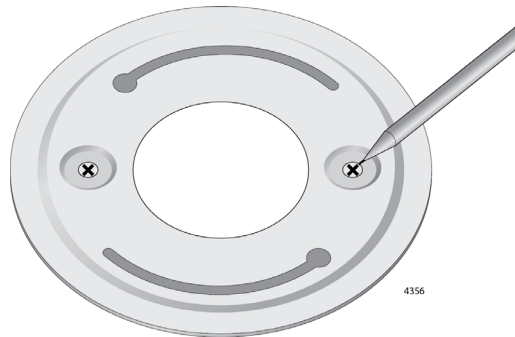

Figure 23. Marking the Mounting Base Holes
9. Using the mounting base as a template, mark the two holes with a pencil where you want to install the access point. See Figure 23.